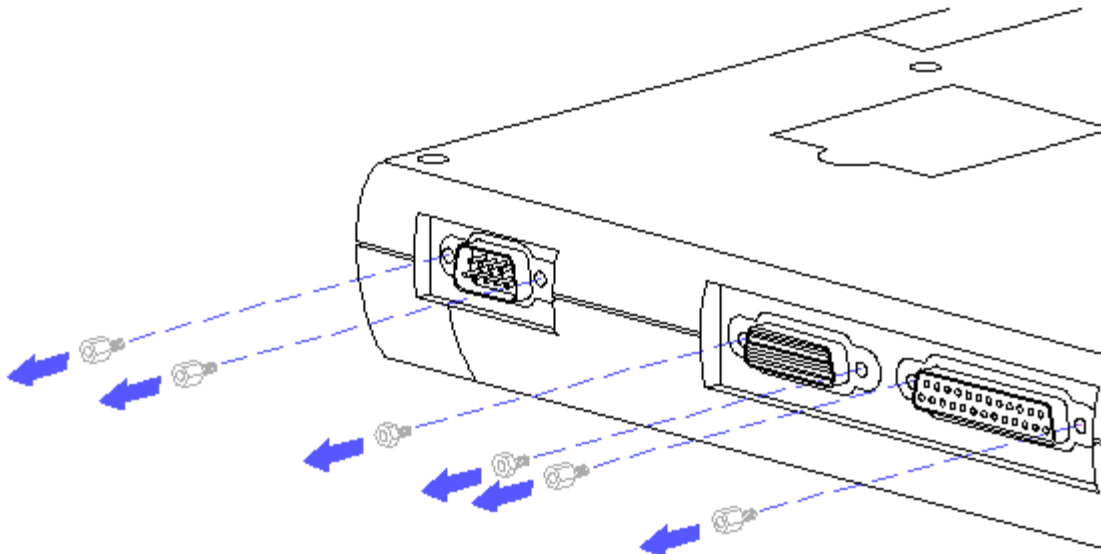

Figure 3-46. Removing the Six Screw Locks
8. Using a hex socket driver, remove the six screw locks from the rear of the computer that secure the connectors to the chassis (Figure 3-46).